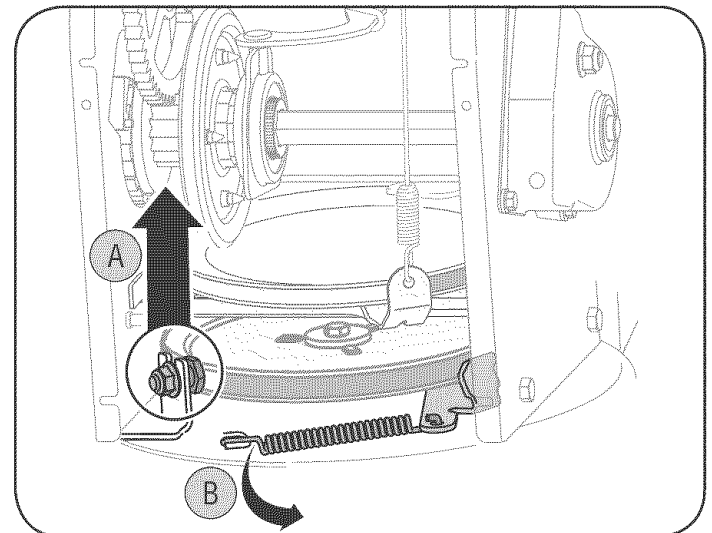

Figure 21
2. a. Turn the shoulder screw a half a turn and slide it out of the mounting bracket. See Figure 21.
b. Unhook spring to release tension on the auger belt. See Figure 21.